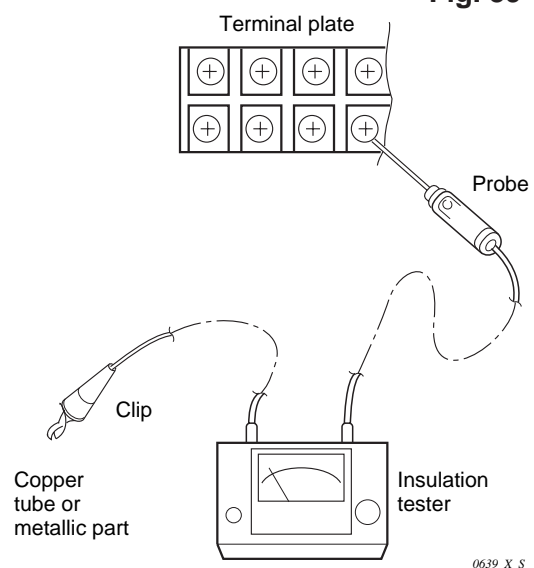

Fig. 40
Clamp an aluminum plate fin or copper tube with the lead clip of the insulation resistance tester and measure the resistance by placing a probe on high voltage terminal on the terminal plate (Fig. 40)
(Fig. 40)
③ Outdoor Unit (SPW-C253GH8, SPW-C363GH8, SPW-C483GH8)
Clamp a metallic part of the unit with the lead clip of the insulation resistance tester and measure the resistance by placing a probe on ⑤ and then ⑥, and then ⑦ on the 8P terminal plate. (Fig. 40)